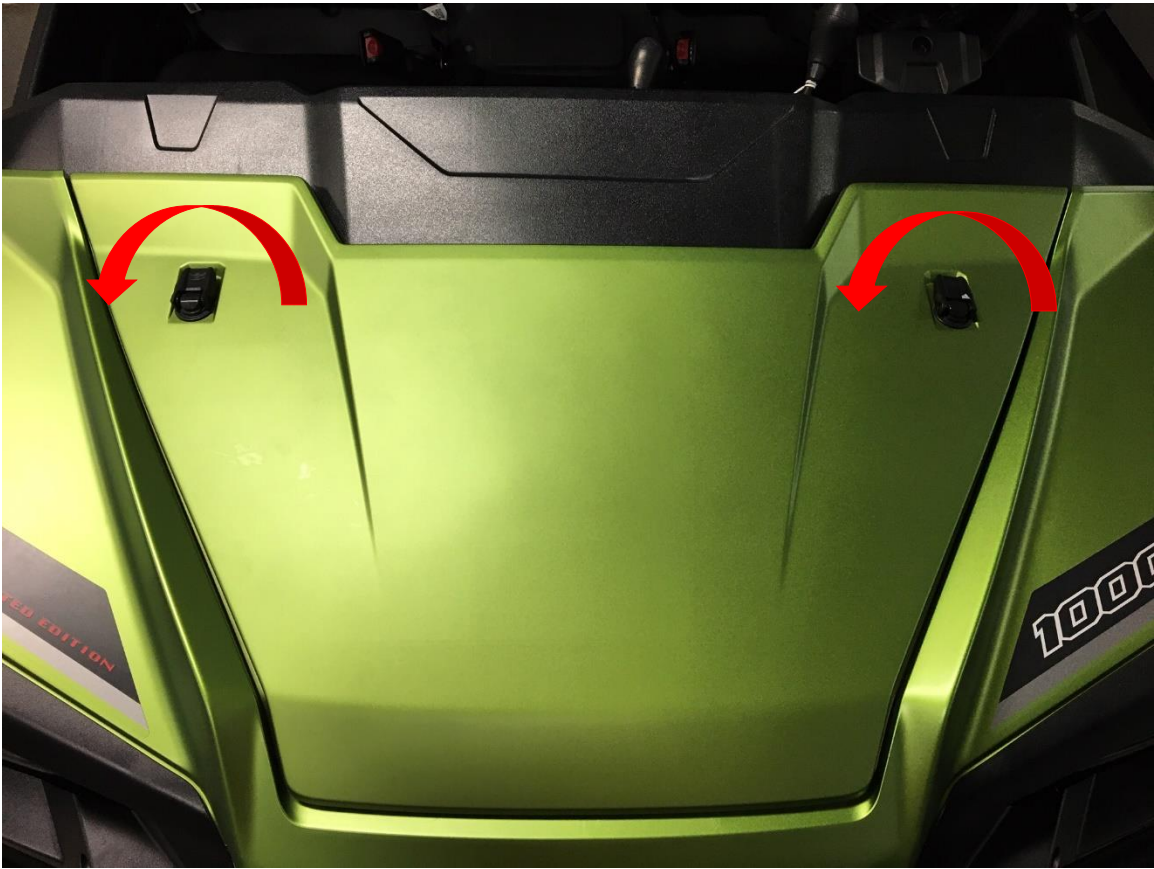

Figure 10: Remove the radiator hood access panel.
8. Remove the radiator hood access panel from the front of the vehicle by lifting and rotating the $\frac{1}{4}$ turn clips, lifting the hood, and sliding it towards the front of the vehicle. See Figure 10.